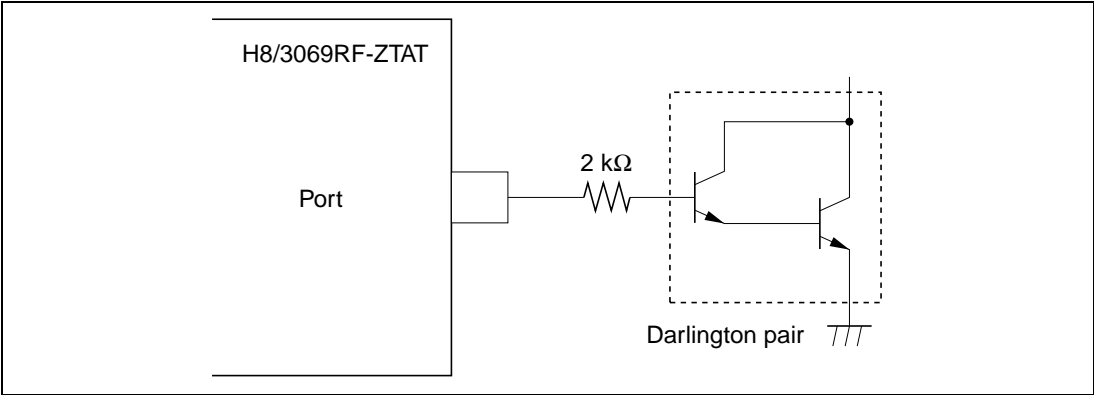

Figure 21.4 Darlington Pair Drive Circuit (Example)
2. When directly driving a darlington pair or LED, always insert a current-limiting resistor in the output line, as shown in figures 21.4 and 21.5.